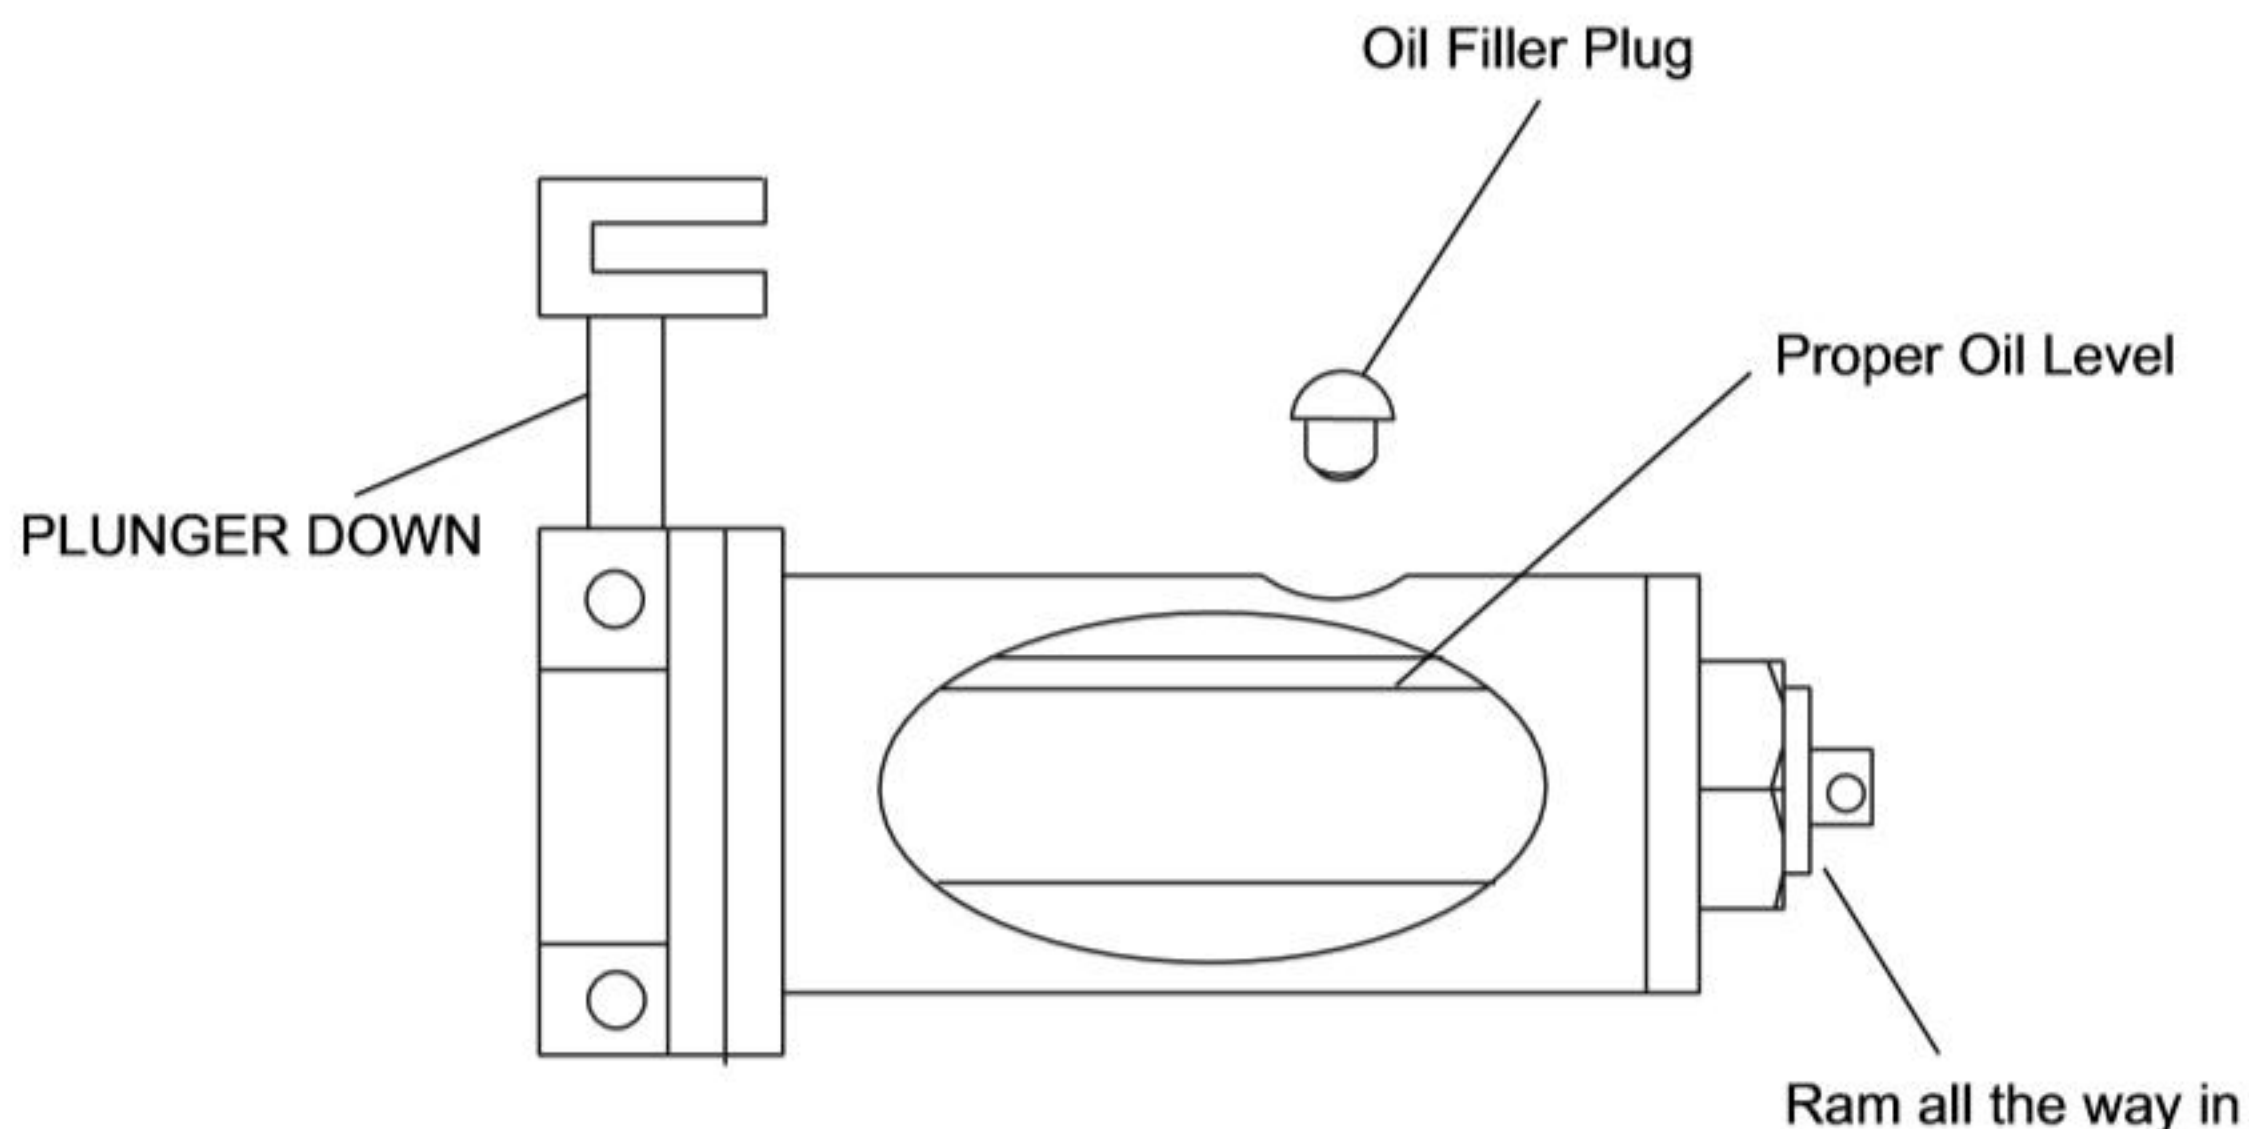

FIG. 4
- Remove the oil filler plug from the cylinder. (see Fig. 4)
- Check ram and pump plunger (see Fig. 4) every few months for any signs of rust or corrosion. Clean as needed by wiping with an oily cloth.